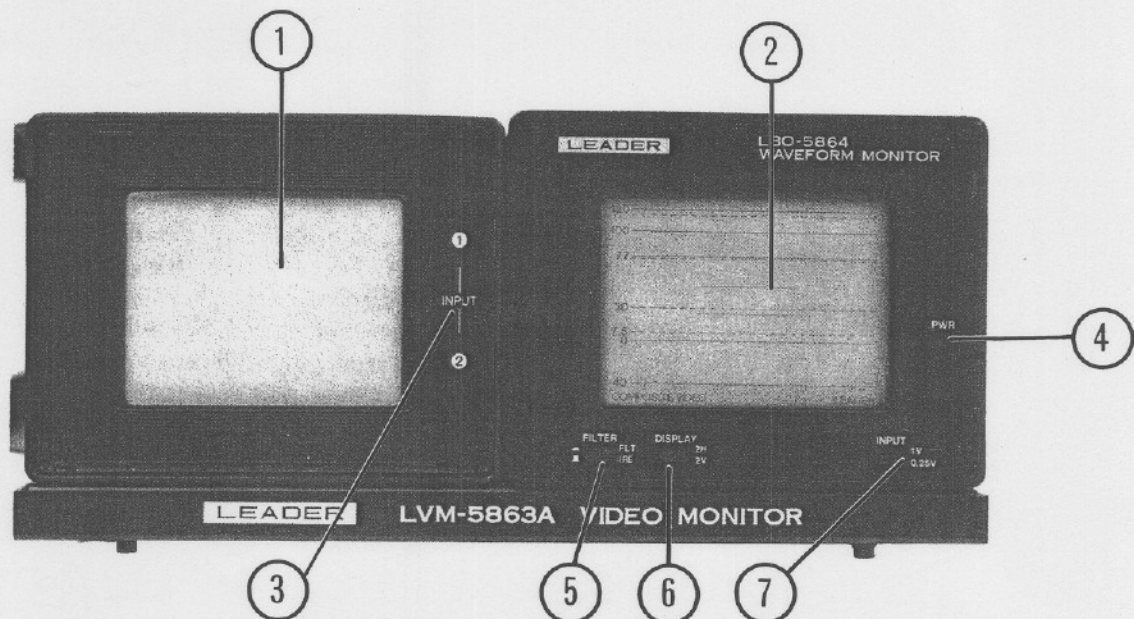

Figure 2-1. Front panel
Before turning on this instrument, familiarize yourself with the controls, connectors, indicators and other features described in this section. The descriptions that follow are keyed to the items called out in Figures 2-1 to 2-4.
Refer to Figure 2-1 for references ① to ⑦